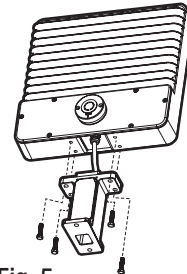

Fig. 5
- Thread the wires through the extension arm (AA) and align the four holes with the holes on the fixture head. (Fig. 5)